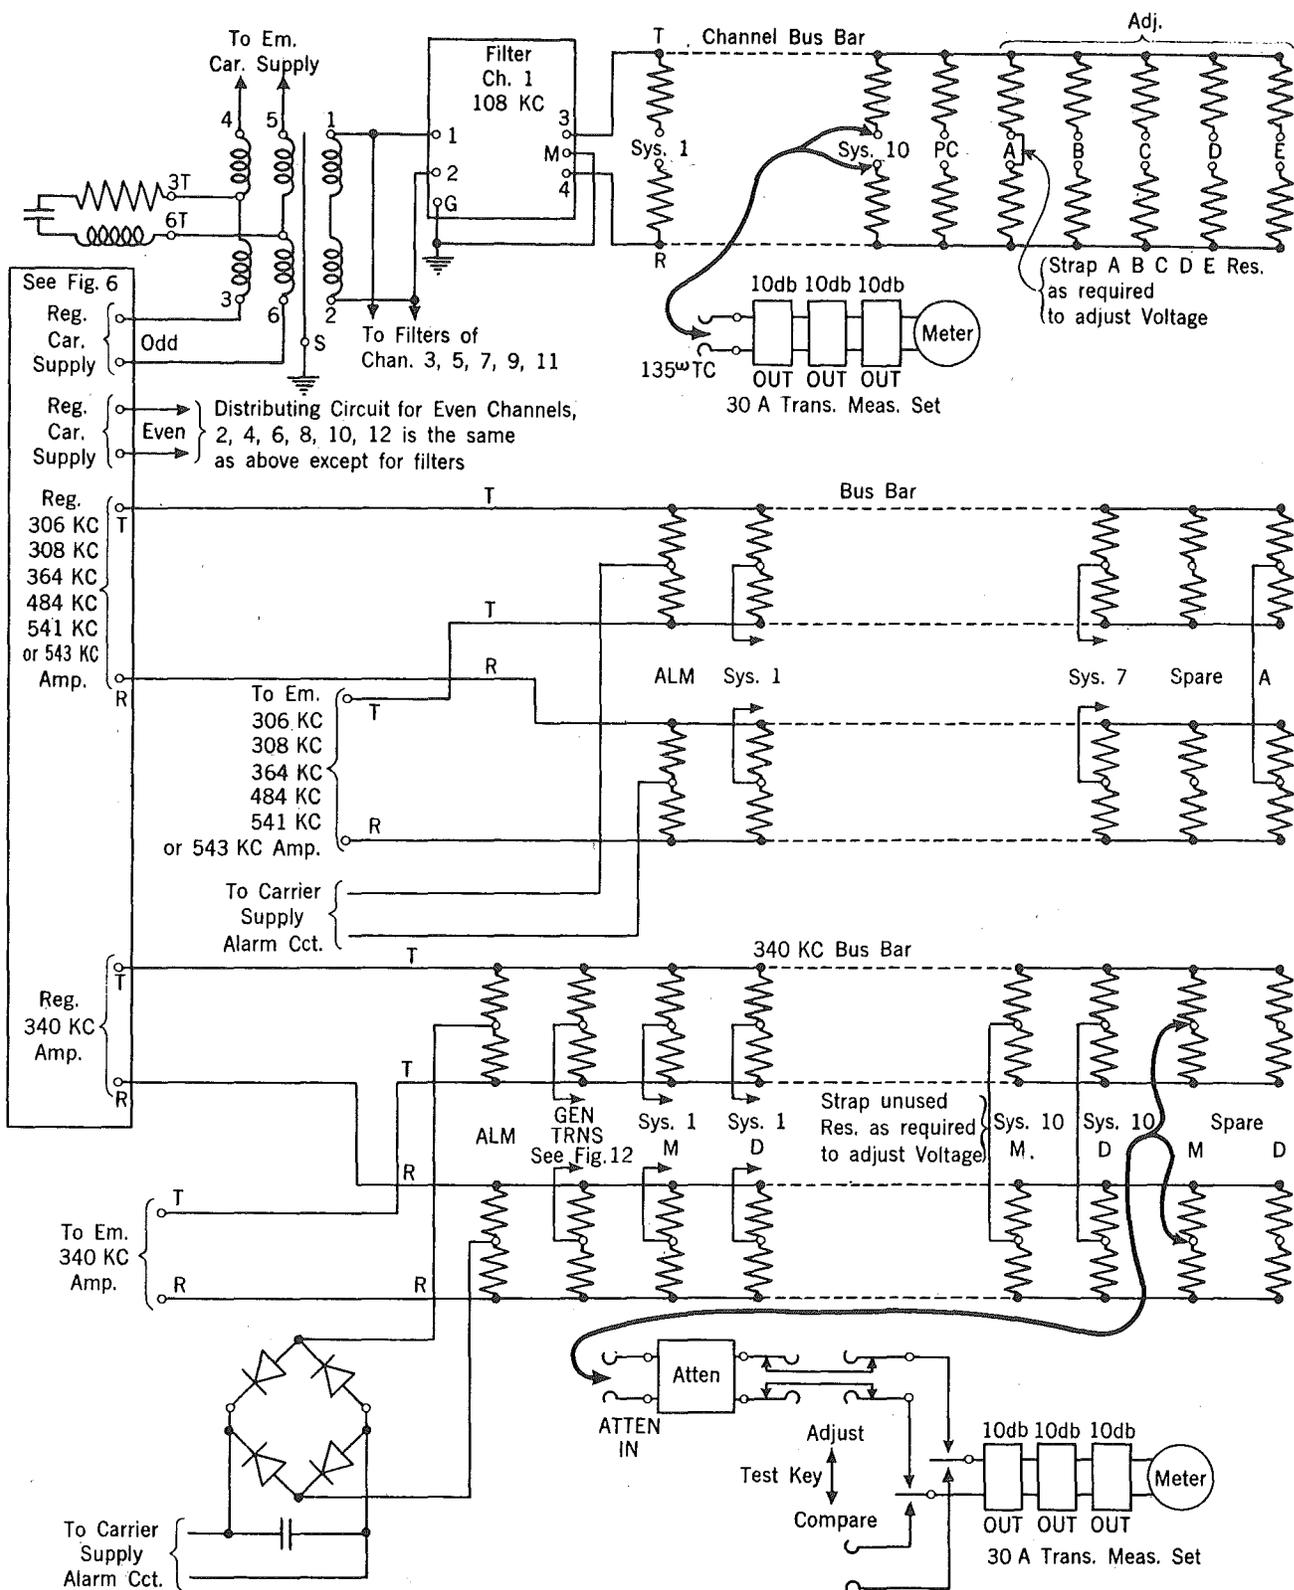

Fig. 9 - Carrier Bus Bar Output - J2 Carrier Supply
3.33 Procedure - Channel Bus Bar Output - Regular Carrier Supply - See Fig. 9 for J2, Fig. 10 for K, and Fig. 11 for the Combined J2 & K Carrier Supply:
3.34 Procedure - Group Carrier Supply Bus Bar Output - Regular Carrier Supply - See Fig. 9 for J2, Fig. 10 for K, and Fig. 11 for the Combined J2 & K Carrier Supply:
- (1) Remove the plug of the 2W24A cord from the 135-OHM TC jacks and insert it in the ATTEN IN jacks of the 30A set.
- (2) Connect the test clips of the 2W24A cord to the terminals T and R of unused resistances of the group carrier bus bar under test as shown in Fig. 9 for J2, Fig. 10 for K, and Fig. 11 for the combined J2 & K carrier supply.
- (3) Set the attenuator to 14 db for the J2 carrier supply bus where 130 volt plate battery is used on the J2 carrier supply amplifiers or to 16 db where 152 volt plate battery is used on these amplifiers. For the 120-kc carrier supply bus, set the attenuator to 5 db. Operate the TEST KEY of the 30A set to the ADJUST position.
- (4) Read the 30A set meter which gives a measure of the bus bar output and record the readings for use in the procedure of Paragraph 3.35.
- 3.35 Procedure - Channel and Group Carrier Supply Bus Bar Output - Emergency Carrier Supply - See Fig. 9 for J2, Fig. 10 for K and Fig. 11 for the Combined J2 & K Supply: